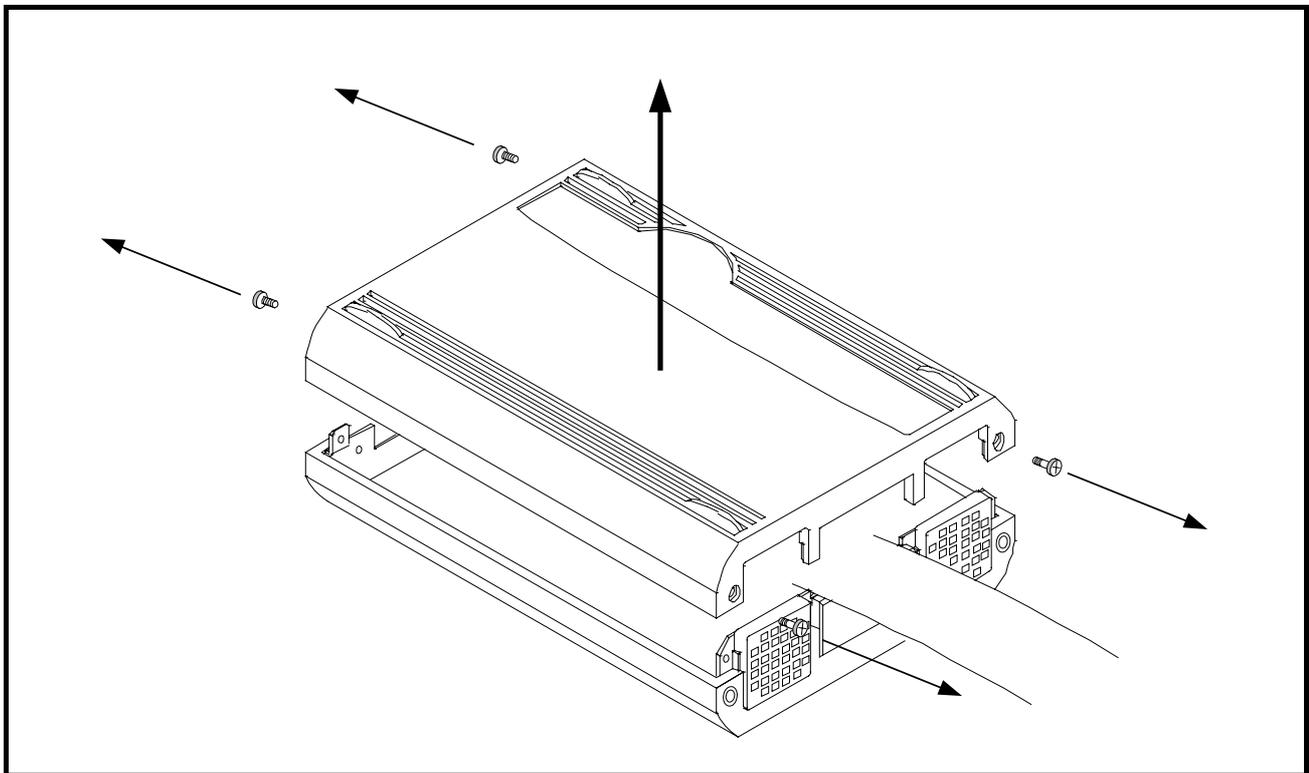

Figure 2.1 Removing the upper cover
- (1) To open the upper cover, remove the four screws of both sides of this product and lift off the upper cover (see Figure 2.1)
- (2) To close the upper cover, attach the upper cover and secure the four screws of both sides of this product.